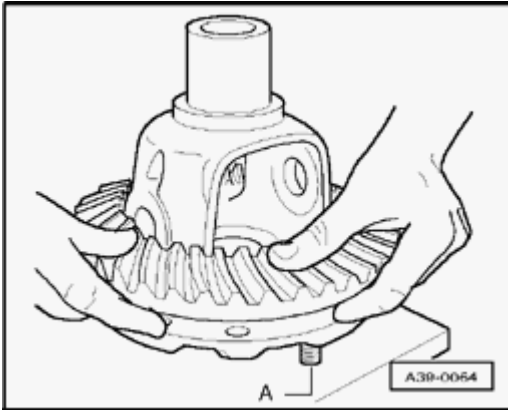

**Fig. 85: Installing Ring Gear**
- Install to differential housing. See Fig. 85